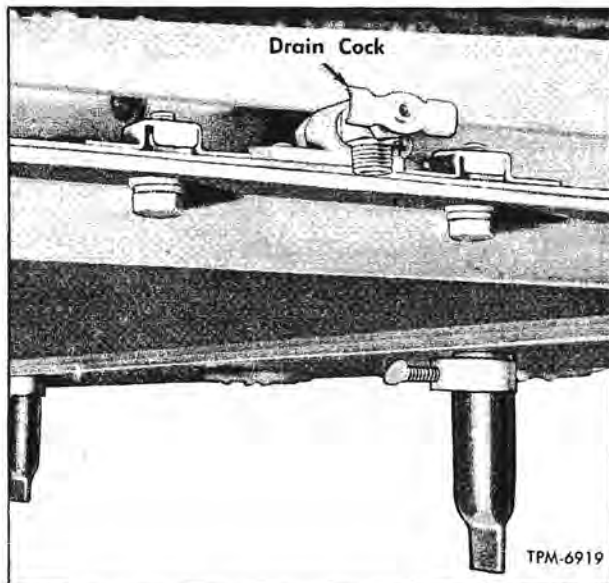

Figure 10—Underfloor Heater Core Drain Cock
3. Open drain cock (fig. 10) at lower right side of underfloor heater compartment to drain heater cores.